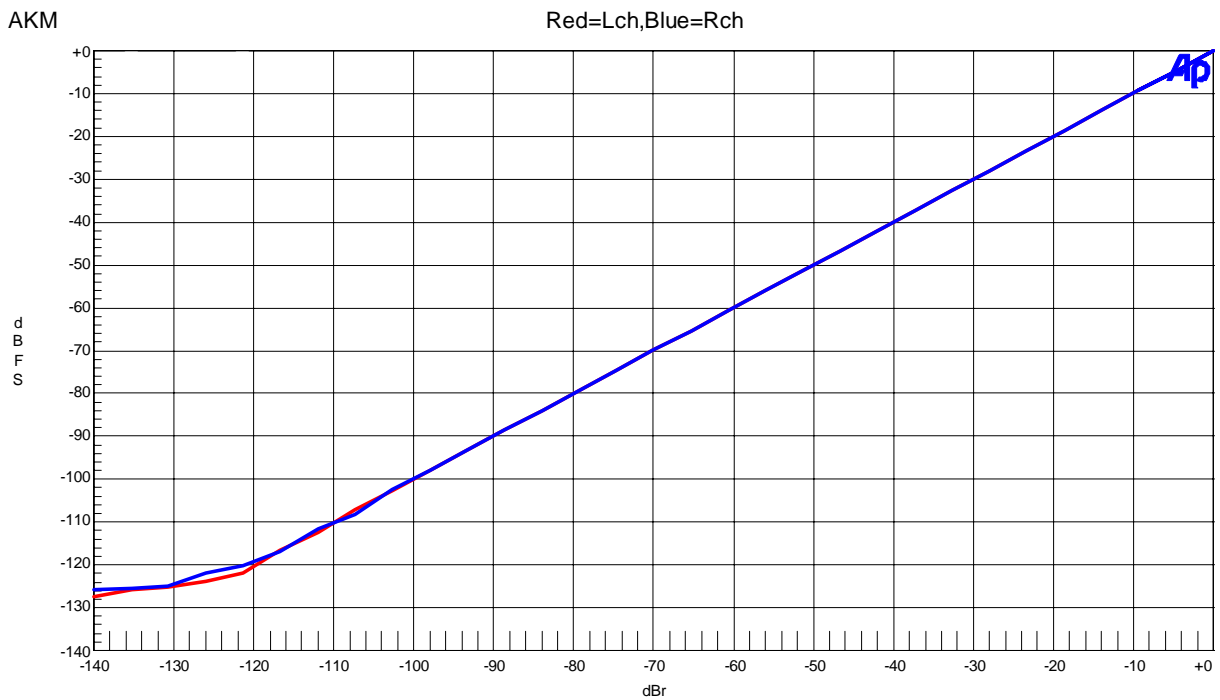

Figure 13. Linearity (Input Frequency=1kHz)
- Figure 13. Frequency Response (Input Level=0dBFS)